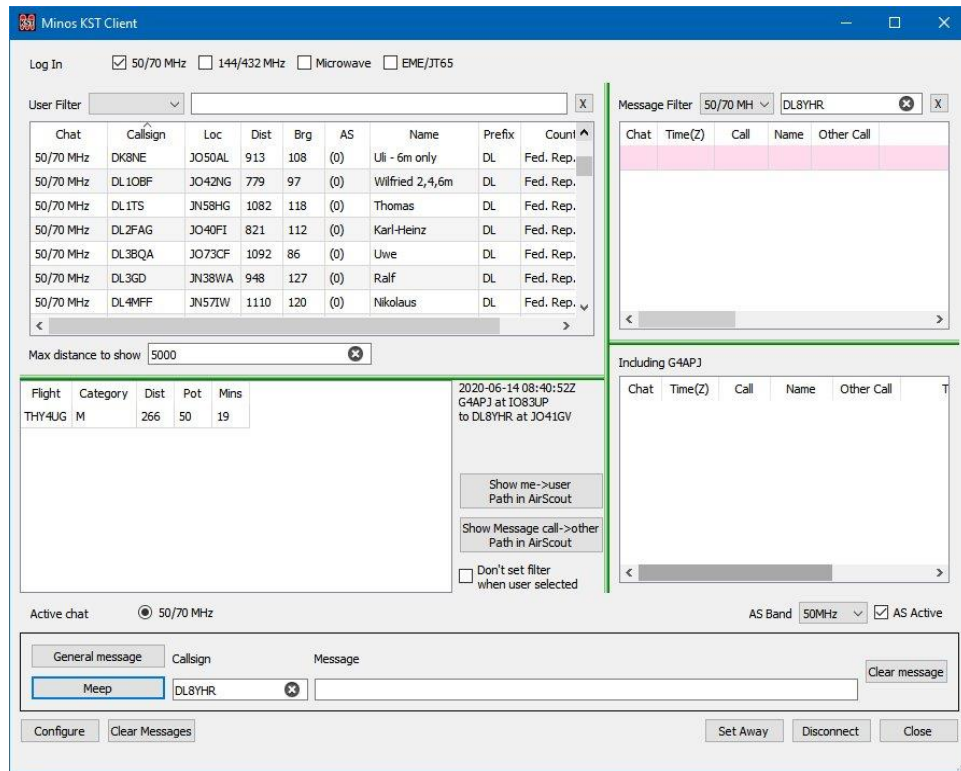

Figure 186 – Airscout operational in KST Client
Once the connection is established¹⁴⁴ additional information (AS) is displayed in the User panel (on the left), and a new panel appears bottom left (Figure 186).